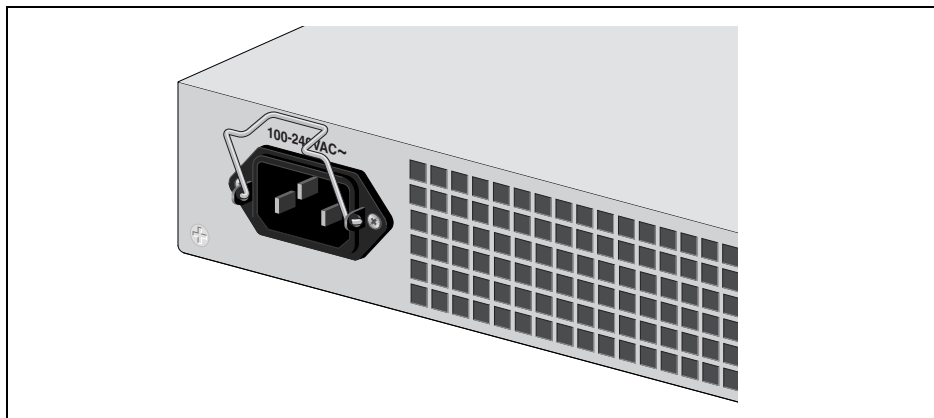

Figure 19. Power Cord Retaining Clip in the Up Position
1. Position the power cord retaining clip in the up position, as shown in Figure 19.